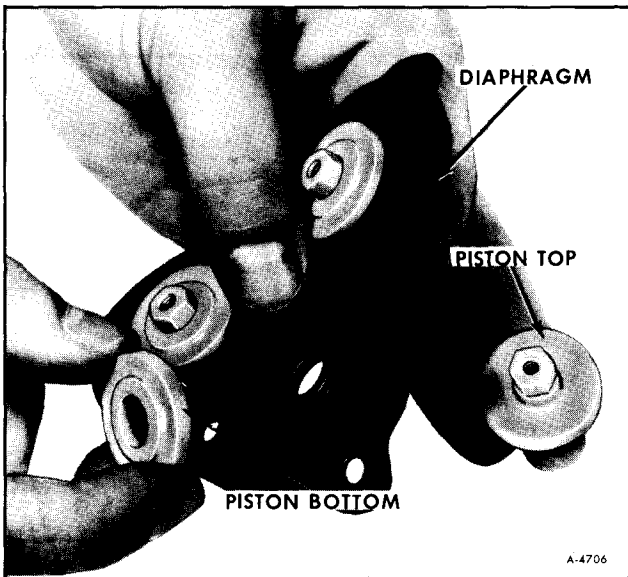

Figure 35—Removing Pistons from Diaphragm
8. Remove the piston assembly (held by screws, removed in step 7, to the wobble plate), then take the piston tops and bottoms apart from the diaphragm (figure 35).
1. Place three piston tops through diaphragm and piston bottoms, then position on lower housing (figure 35).